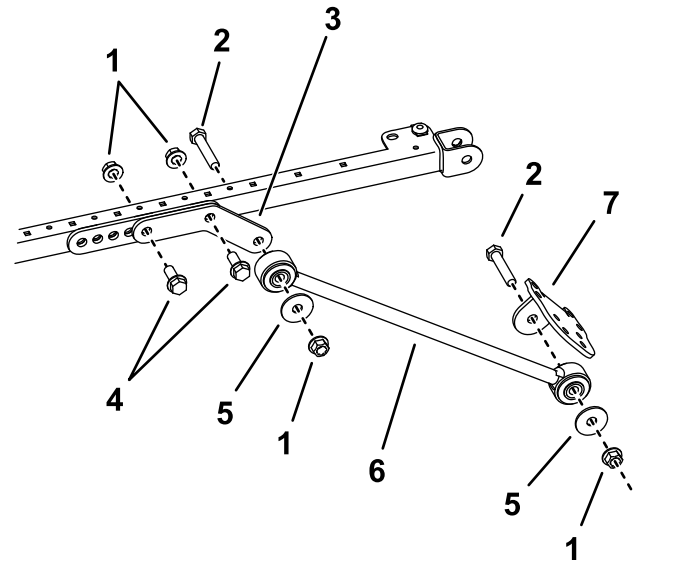

Figure 40
9. On each side of the sunshade frame, loosely mount an extension link to the rear and center holes of the mount bracket with 2 bolts (1/2 x 1-1/2 inches), and 2 flange nuts (1/2 inch) as shown in Figure 40.
10. Attach a brace to the outside of each extension link with a bolt (1/2 x 2-1/2 inches), washer (1/2 inch), and flange nut (1/2 inch) as shown in Figure 40.
11. Loosely install a brace bracket to each brace with a bolt (1/2 x 2-1/2 inches), washer (1/2 inch), and flange nut (1/2 inch) as shown in Figure 40.